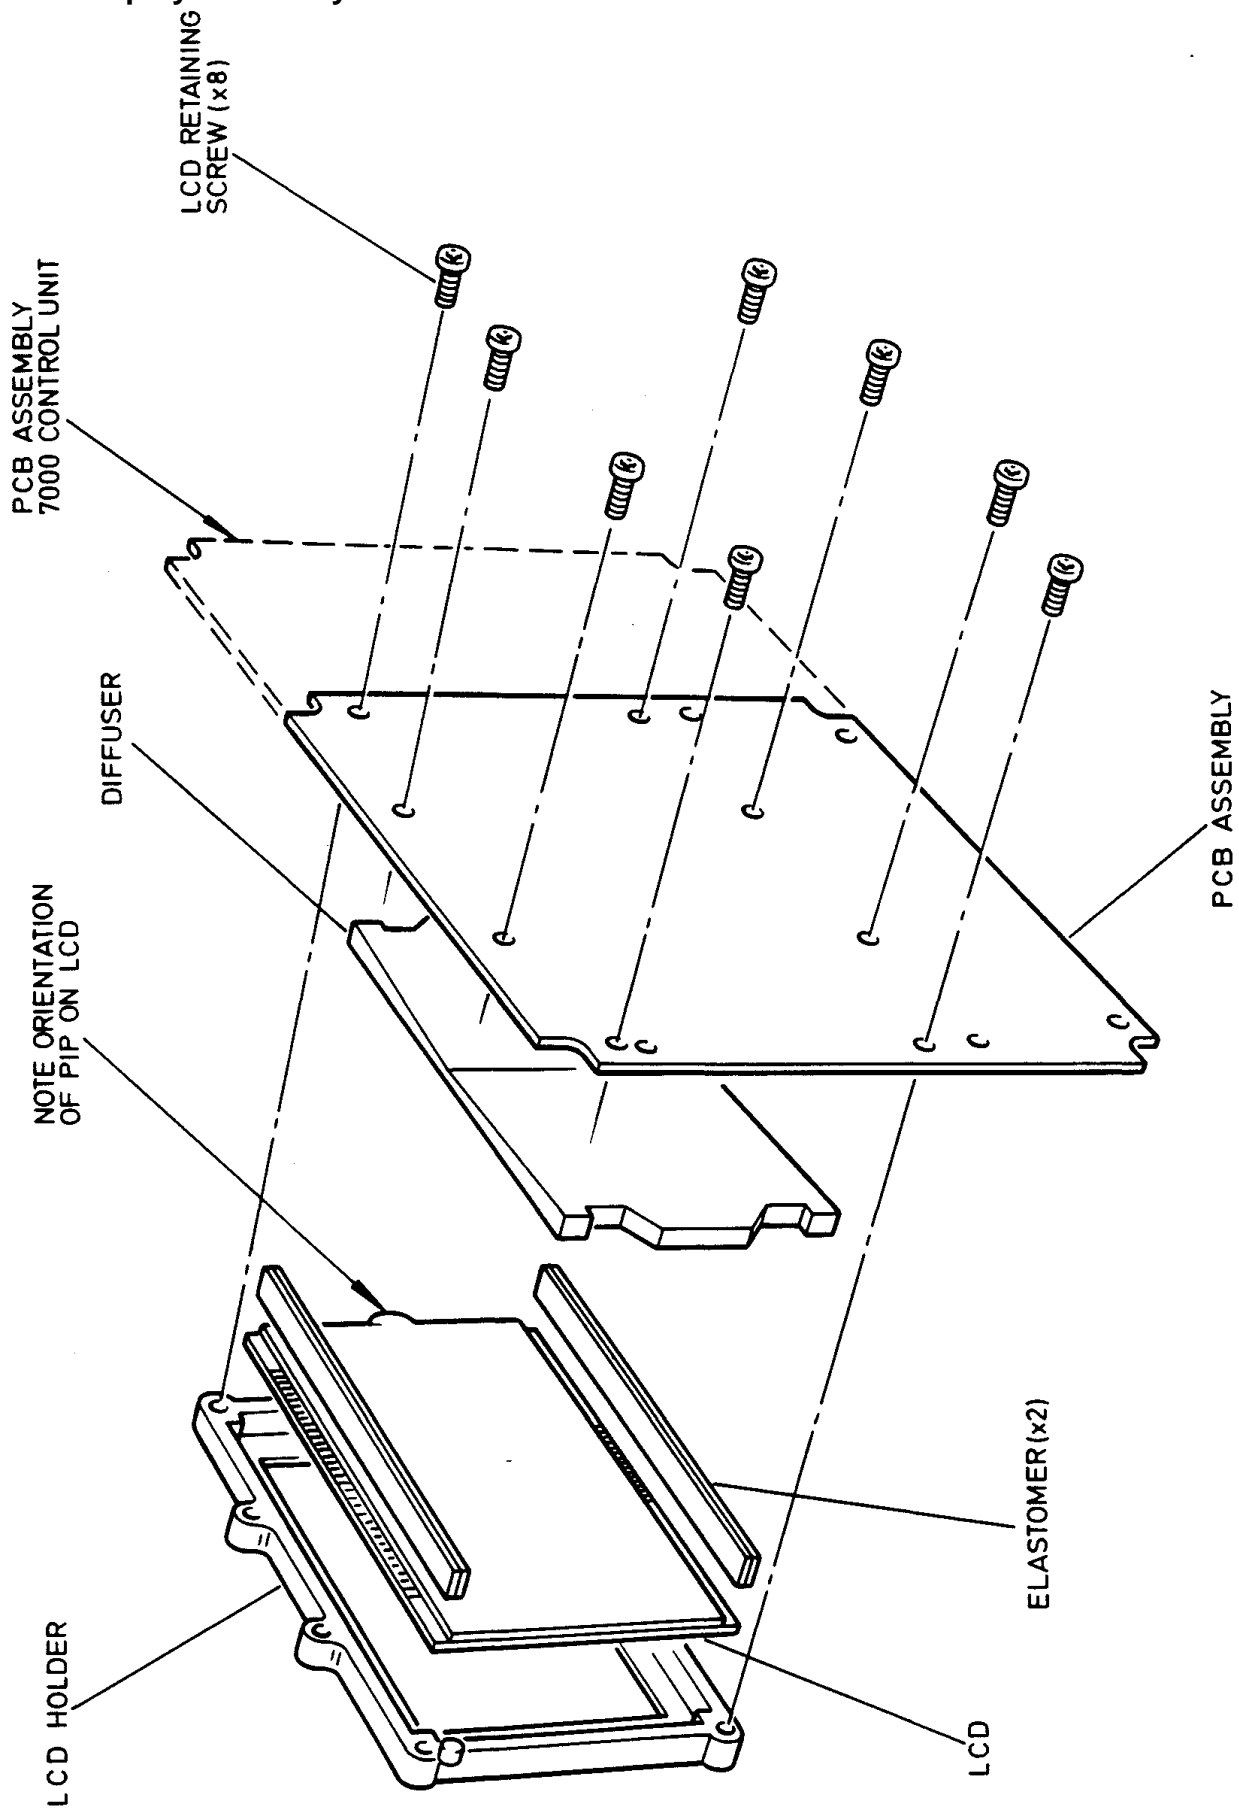

Fig. 2.
| Fig. 2. LCD/Diffuser Assembly              | 6 |
Note: Do not at this stage remove the screws which secure the LCD assembly to the PCB. (fig 2.).
4. Unscrew and remove the 8 LCD housing retaining screws, (fig 2.). Be careful to hold the LCD surround, LCD, and diffuser when dismantling. Lift away from the PCB and store carefully.
2. Ensure the LCD is correctly orientated relative to the PCB (fig 2).
3. Ensure the diffuser is correctly orientated relative to the LCD and PCB (fig 2).